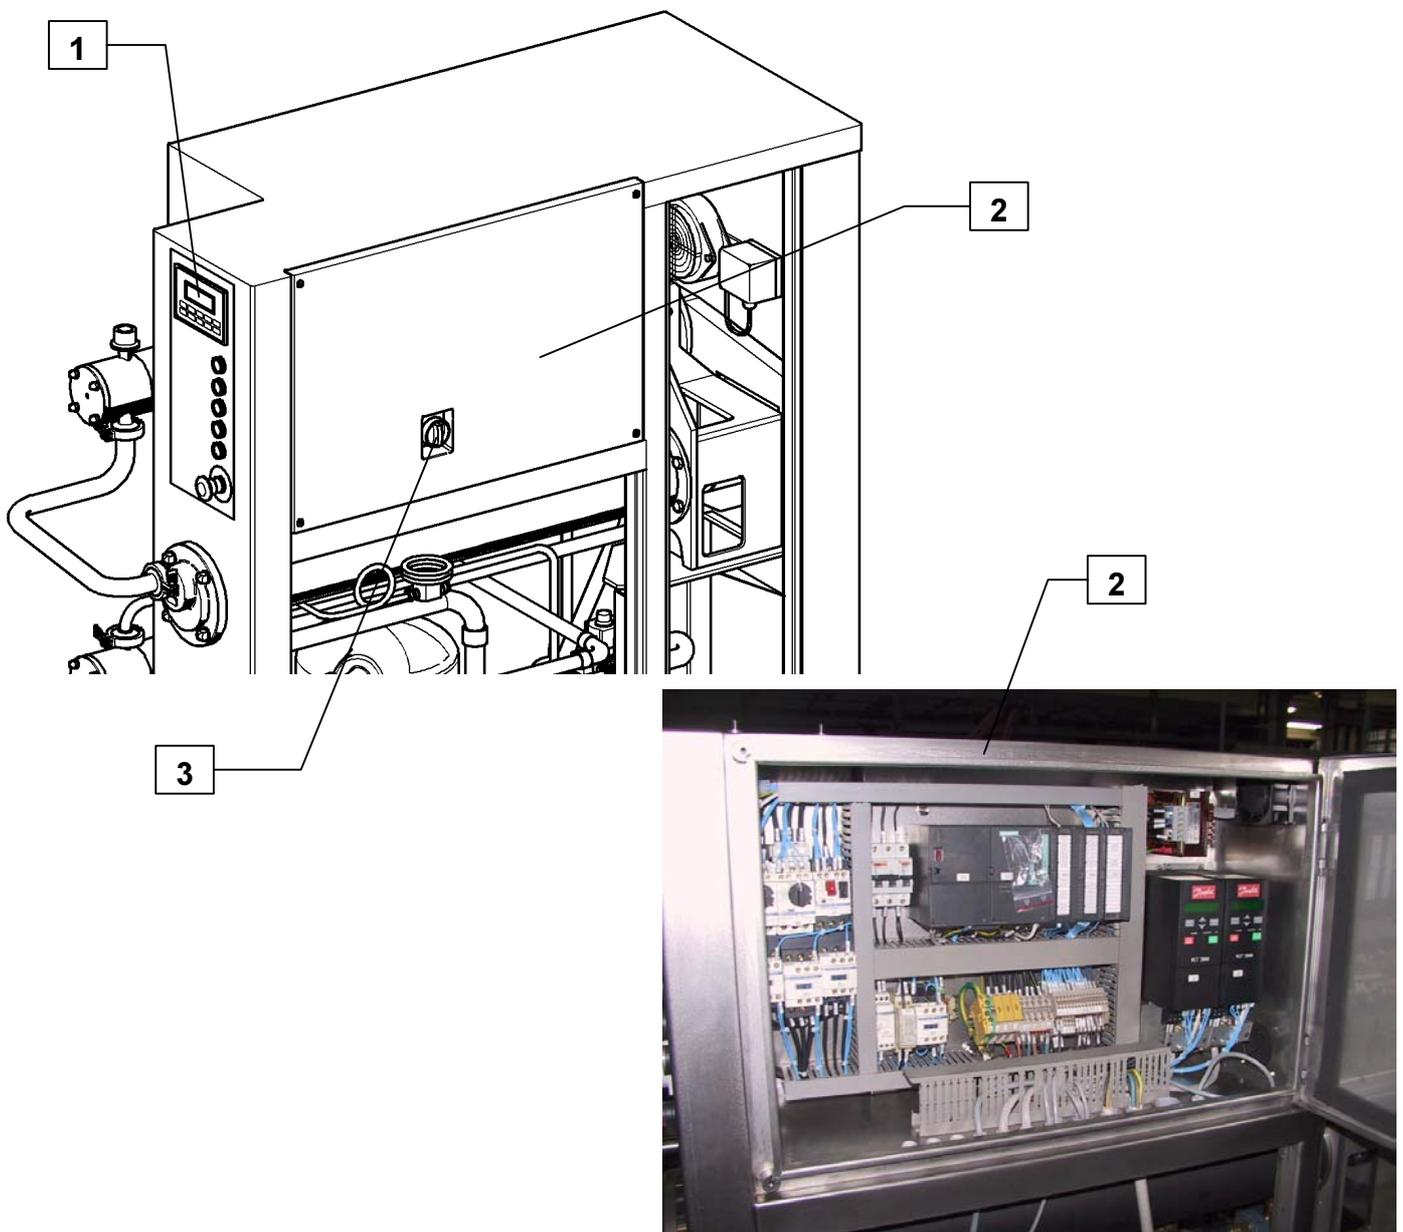

Fig. 3-7 – Electrical installation
It is made of an operator panel (Fig. 3-7 pos. 1) and the electrical board (Fig. 3-7 pos. 2) which lies in the right side of the machine.
In the electrical box (Fig. 3-7 pos. 2) placed in the right side of the machine, are positioned all the control and power equipments and on the outer side is the general switch (Fig. 3-7 pos. 3).